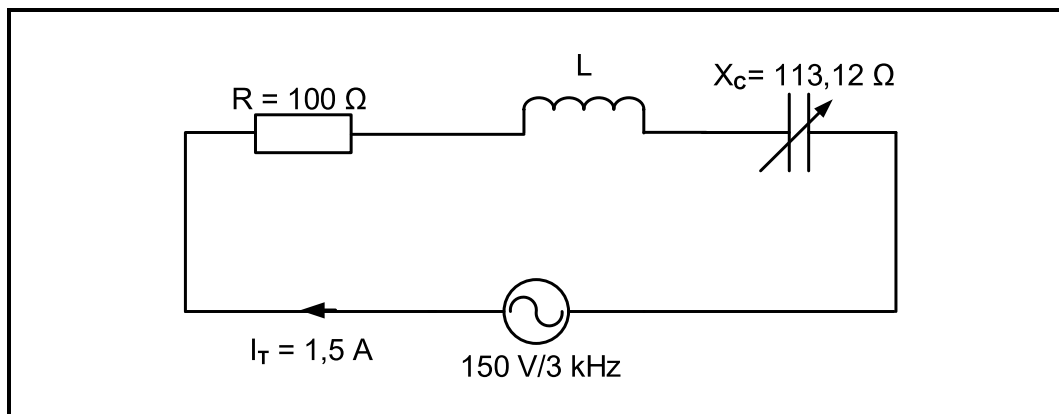

FIGURE 3.6: RLC SERIES CIRCUIT
3.6 Refer to FIGURE 3.6 below and answer the questions that follow.